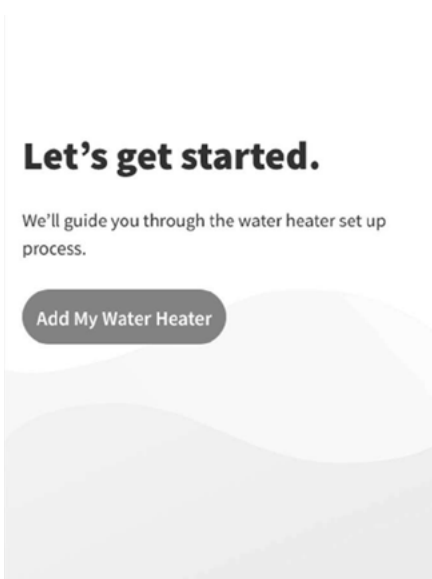

Figure 9 - Add my water heater section
- 25 Open the **iCOMM Utilities** app and log into your existing account. Tap the "Add My Water Heater" button. See Figure 9.